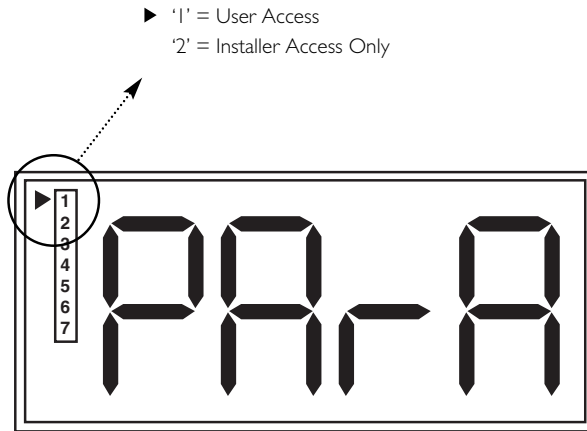

Fig. 4 User Access to System Parameters
2. To the left of the word 'PARA' there is a small arrow head and a list of numbers from 1 to 7 (Fig 4). Select the number '1' to access the user values using the '+' and '-' buttons.